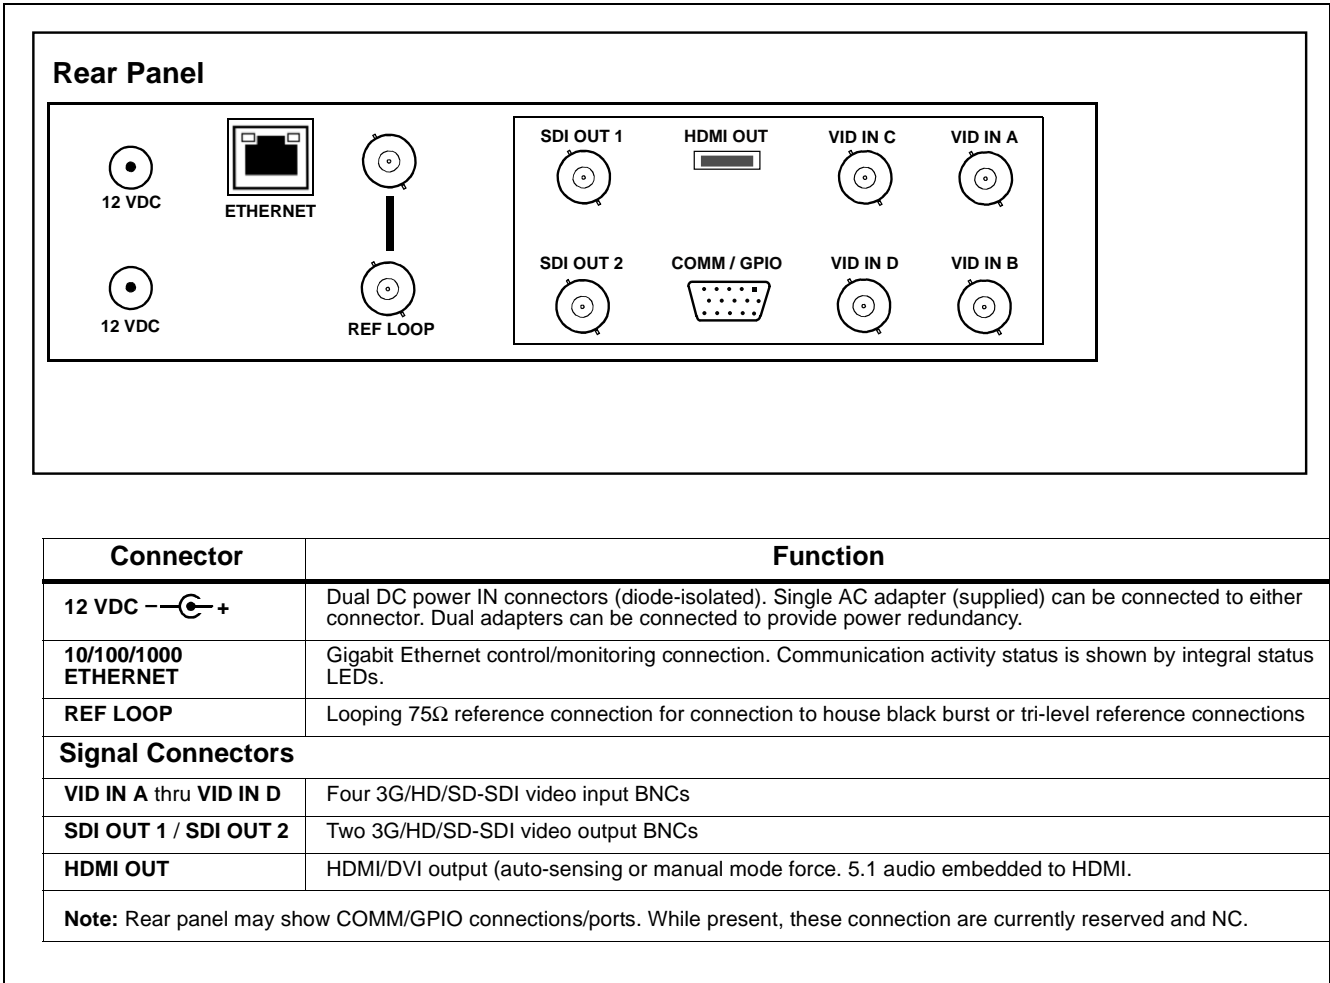

Figure 2-3 BBG-1078-ANC-MON Rear Panel Connectors
2. Connect the input and output cables as shown in Figure 2-3.
Perform rear panel cable connections as shown in Figure 2-3.